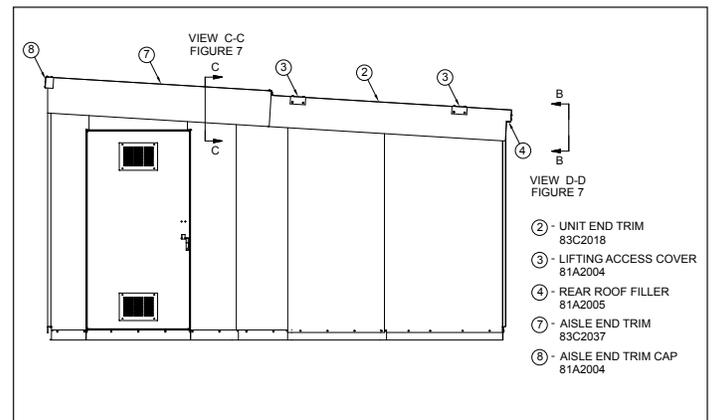
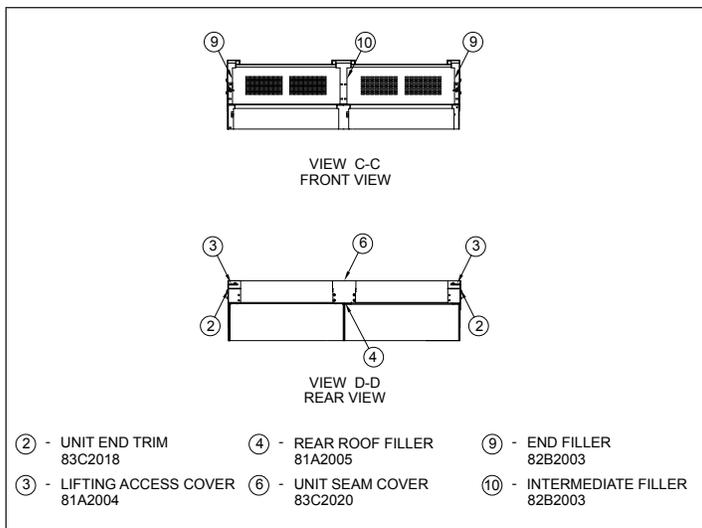

Figure 6. Unit and Aisle End Trim Locations.
Figure 7. Filler Pieces and End Trim Locations.
3. Install (if not already installed) the right- and left-hand end trim, right and left roof filler, right and left aisle unit filler, unit seam cover, mid roof filler, and rear filler. **Figure 6** and **Figure 7** show the placement of these items.
4. Install (if not already installed) the aisle seam cap, right and left aisle end trim cap, and end trim. Refer to **Figure 6** and to **Figure 7**.